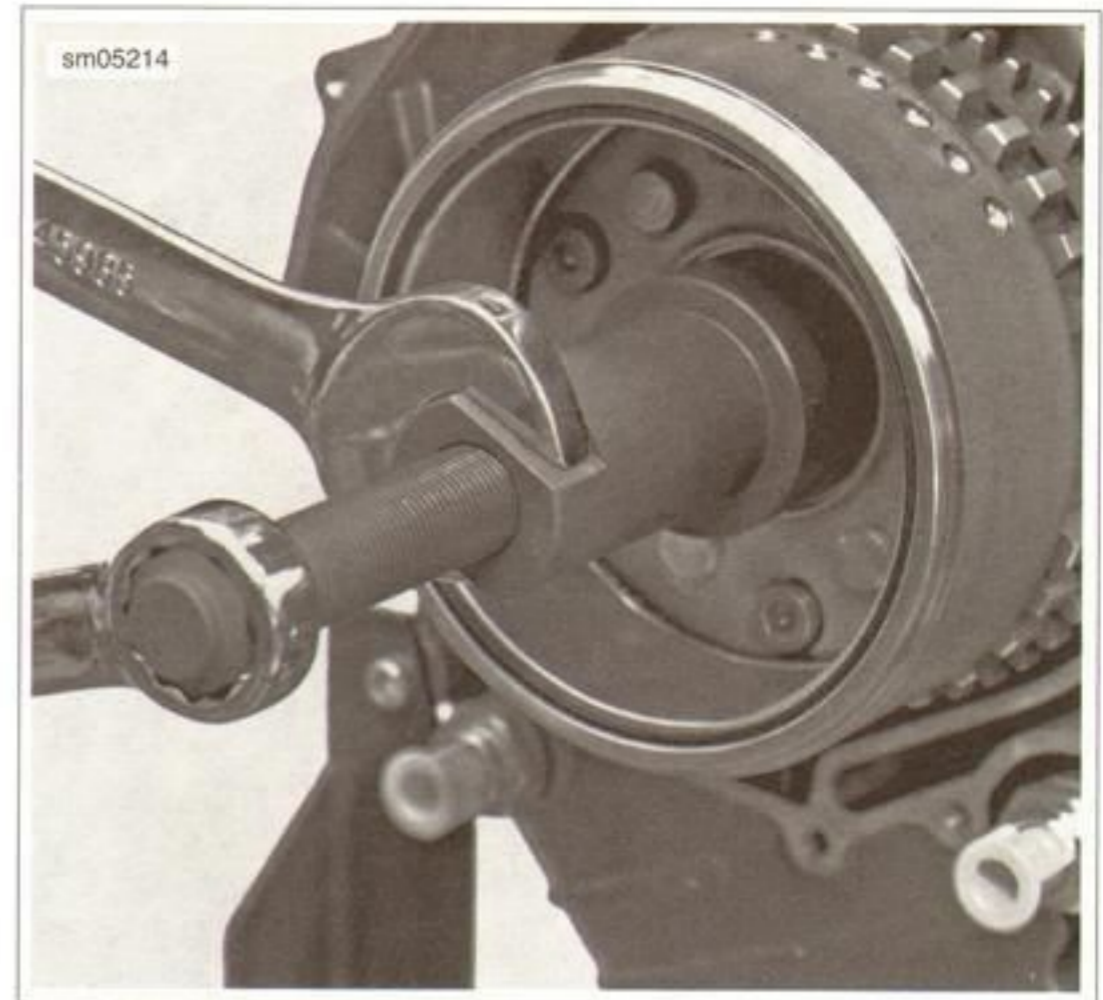

Figure 7-32. Alternator Rotor Remover
9. See Figure 7-32. Fit the end cap to the crankshaft and thread the ALTERNATOR ROTOR REMOVER (Part No. B-48857) onto the flywheel hub. Turn the forcing screw to remove the rotor from the crankshaft splines.